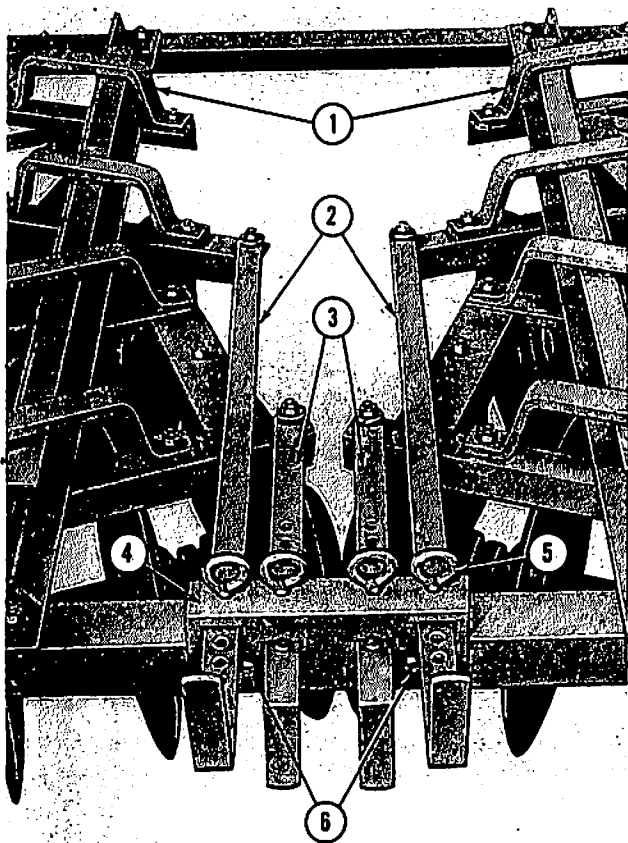
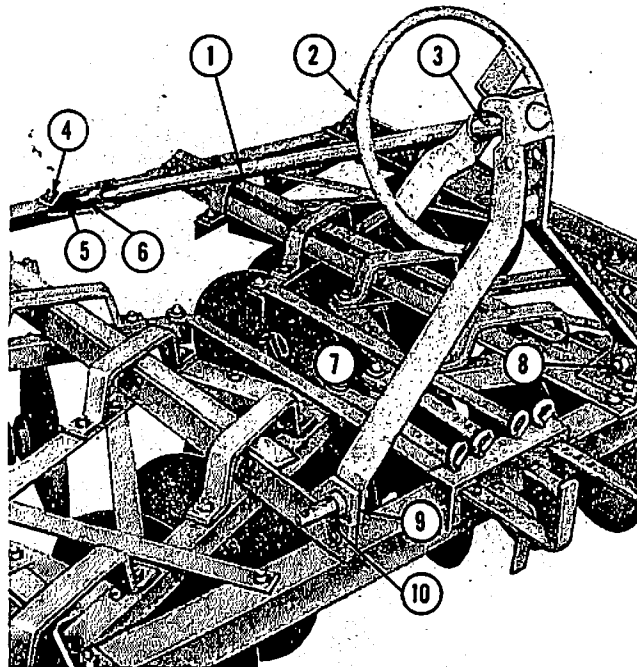

Figure 4
Figure 5
3. Position the eight gang retainers (See 1, Figure 4) over the inner frame members and secure with $\frac{7}{16}$ " x $1\frac{1}{4}$ " bolts and locknuts as shown.
- a. Position the adjusting lever bracket (4), Figure 4, on the front frame member so that the four pin holes are aligned with the holes in the frame. Secure with two $\frac{7}{16}$ " x $1\frac{1}{4}$ " bolts and locknuts (6).
- b. Insert the two short adjusting levers (3), Figure 4, through the inner slots in the bracket (4) with the handles turned *DOWN*. Attach the levers to the front gang assemblies with the two $\frac{7}{16}$ " x $1\frac{1}{4}$ " bolts, shouldered spacers and locknuts provided.
- c. Insert the two long adjusting levers (2), Figure 4, through the outer slots in the bracket (4) with the handles turned *UP*. Attach the levers to the rear gangs with the $\frac{7}{16}$ " x $1\frac{1}{4}$ " bolts, shouldered spacers and locknuts as shown.
- d. Position the front and rear gangs as desired and insert the four adjusting lock pins (5), Figure 4, through the levers as shown.
- a. Position the "A" frame (7), Figure 5, between
- b. the mounting brackets (9) and insert the two link pins (10). Install the $\frac{3}{8}$ " x $1\frac{1}{8}$ " bushings on the link pins and secure with the flatwashers and locknuts (8) provided.
- b. Remove the adjusting shaft yoke (5), Figure 5, from its shipping position on the shaft (1). Insert the shaft through the hole in the top of the "A" frame and position the adjusting wheel (2) on the shaft as shown. Secure the wheel to the shaft with $\frac{5}{16}$ " x $1\frac{1}{2}$ " Groov pin (3).
- c. Turn the adjusting yoke (5), Figure 5, on the shaft as shown and insert the $\frac{1}{4}$ " x $1\frac{1}{4}$ " Groov pin through the threaded end of the shaft (6).
- d. Attach the yoke to the rear frame member with the $\frac{5}{8}$ " x $2\frac{1}{8}$ " bolt and locknut (4), Figure 5. *Do not tighten securely*, but allow approximately $\frac{1}{16}$ " play in the adjusting yoke.
Gang angle: There are six angle settings for each gang, ranging from 10 to 20 degrees. (See Figure 5) The gangs can be adjusted from the tractor seat by raising the implement to transport position and removing the lock pins (5), Figure 4. Use the levers to set the gangs at the desired angle and reinstall the lock pins.
Pitch Control: The front or rear gangs may be raised or lowered by means of a pitch control wheel (2), Figure 5. This wheel controls leveling by providing six inches of adjustment, whereby the implement may be tilted either up or down from the level cutting position.